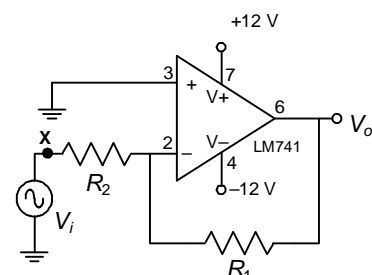

Fig. 1 Inverting amplifier
1. Assemble the circuit shown in Fig. 1 with $R_1 = 10$ k Ω and $R_2 = 1$ k Ω . Make sure the power supply ground is connected to the circuit ground.